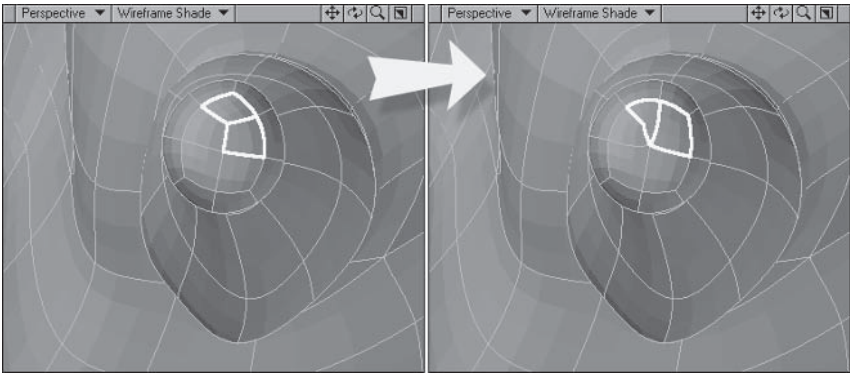

Figure 5.3-48. Cleaning up the tip of the ear.
14. The bulb is looking pretty good now, but let's clean up the very top. Select the two polygons shown in Figure 5.3-48 and **Spin Quads**.